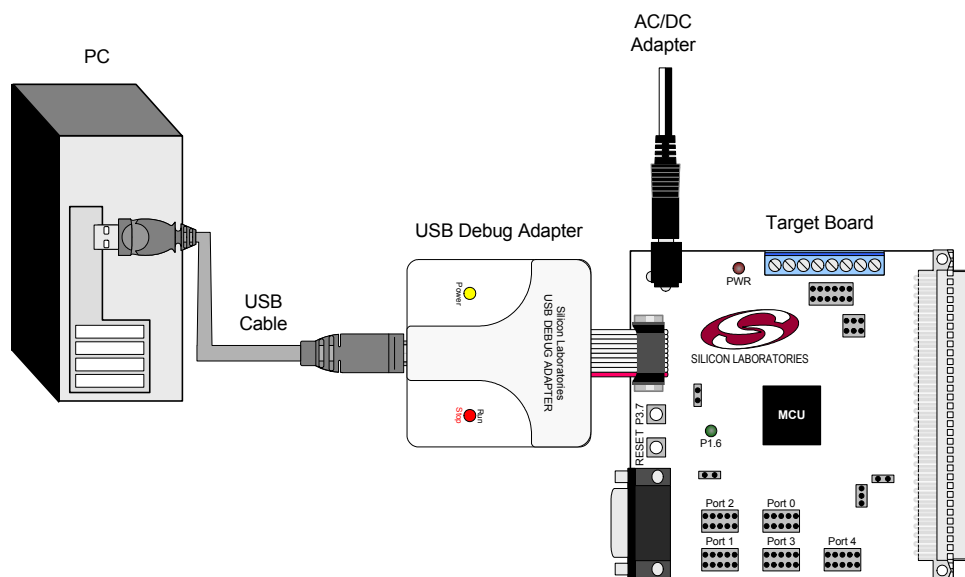

Figure 1. Hardware Setup using a USB Debug Adapter
The target board is connected to a PC running the Silicon Laboratories IDE via the USB Debug Adapter as shown in Figure 1.
1. Connect the USB cable between the host computer and the C8051F320 target board, as shown in Figure 1. See Figure 2 on page 6 for the location of the USB connector.